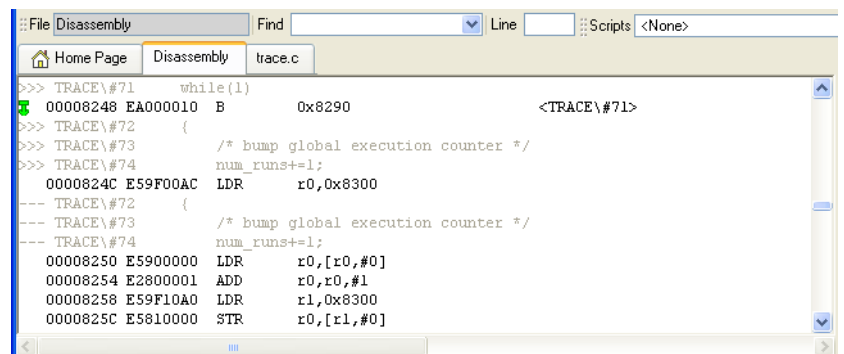

Figure 10-29 Start of Trace Range set
- e. Right-click in the margin at the address corresponding to while(1) to display the context menu.
- h. Click **OK**. The dialog box closes, and a Start of Trace Range tracepoint is set as indicated by the green arrow . Figure 10-29 shows an example: